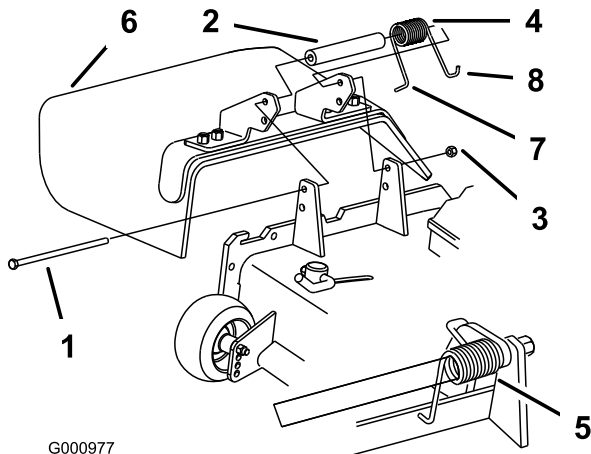

Figure 102
1. Remove the locknut, bolt, spring and spacer holding the deflector to the pivot brackets (Figure 102). Remove the damaged or worn grass deflector.
Note: Make sure the **L** end of the spring is installed behind the deck edge before installing the bolt as shown in Figure 102.
3. Install the bolt and nut. Place the **J** hook end of the spring around the grass deflector (Figure 102).